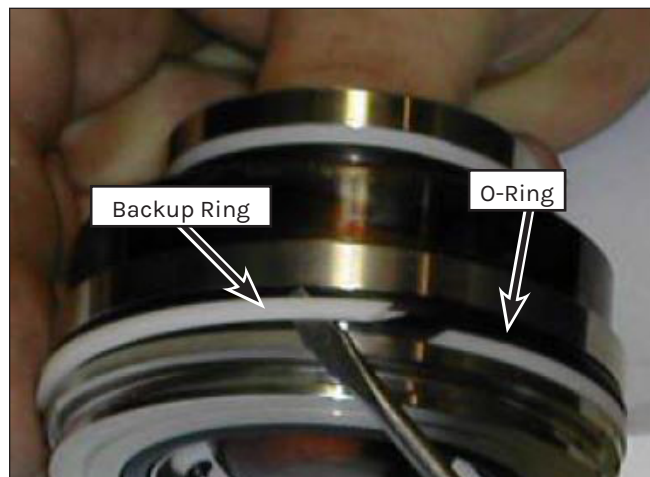

Figure 111: Backup Ring and O-Ring Removal.
2. Locate the slits in the two white backup rings and carefully remove the rings. Remove the companion O-rings, as well (Figure 111). Discard the O-rings and backup rings.
6. Install the new O-rings and backup rings into their respective positions on the assembly (Figure 111).